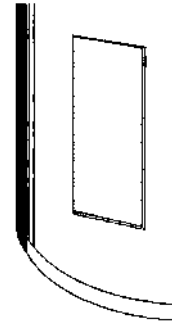

FIGURE 21.
18. Fold down the insulation so that it covers the thermostat and element. See Figure 21.